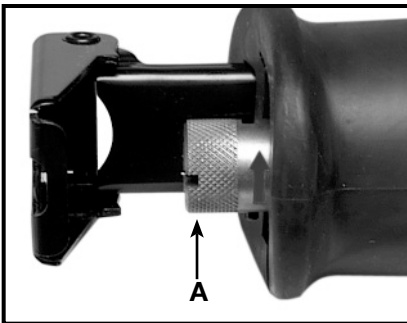

Fig. 1
1. The reciprocating shaft must be fully extended to permit access to the *Quik-Change*™ blade release collar (A) Fig. 1. If necessary, gently squeeze the trigger switch to move the reciprocating shaft to its outermost position (as shown in Fig. 1).